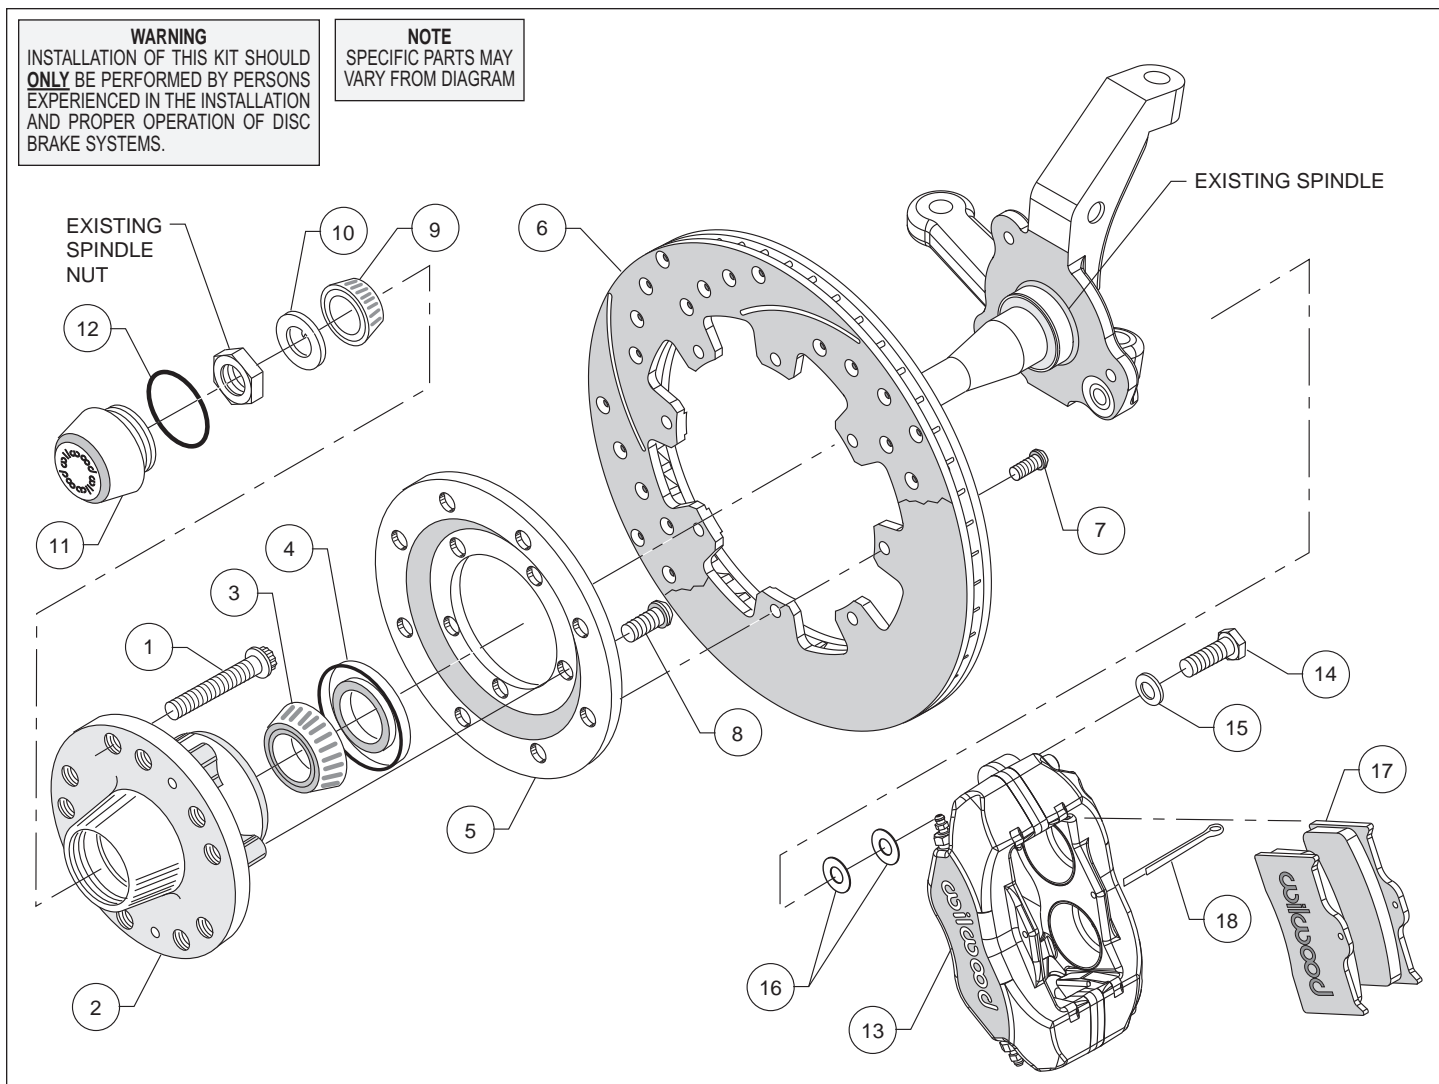

Figure 1. Typical Installation Configuration
Assembly Instructions (numbers in parenthesis refer to the part lists, and Figure 1):
- Install the grease seal (4) by pressing into the backside of the hub (2), flush with the end of the hub, Photo 2.
- Orient the rotor (6) and the rotor adapter (5) as shown in Figure 1 and Photo 3. Attach the rotor to the adapter using bolts (7). Using an alternating sequence, apply red *Loctite*® 271 to the threads, and torque to 25 ft-lb.
- Mount the adapter/rotor assembly (5/6) to the hub (2) using bolts (8), as shown in Figure 1 and Photo 4. Using an alternating sequence, apply red *Loctite*® 271 to the threads, and torque to 45 ft-lb.